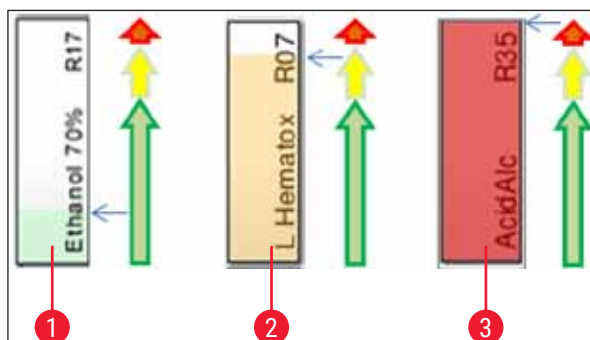

Fig. 69
- A background color (→ "Fig. 69")
- The background color shows the consumption status of the reagent (→ "Fig. 69"). As the reagent is consumed, the color bar rises from the bottom to the top and changes color based on the consumption status.